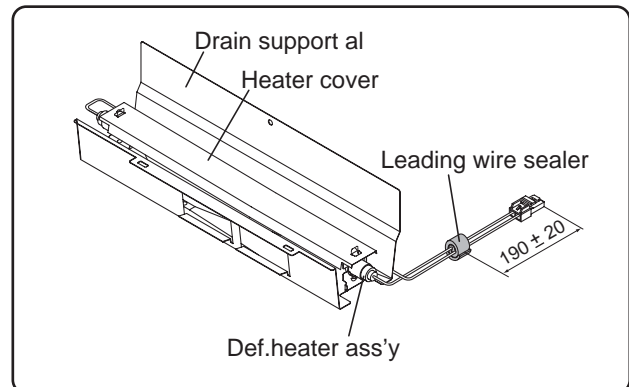

Fig. A-27
(2)-9. Wind up Leading wire sealer as shown in Fig. A-27